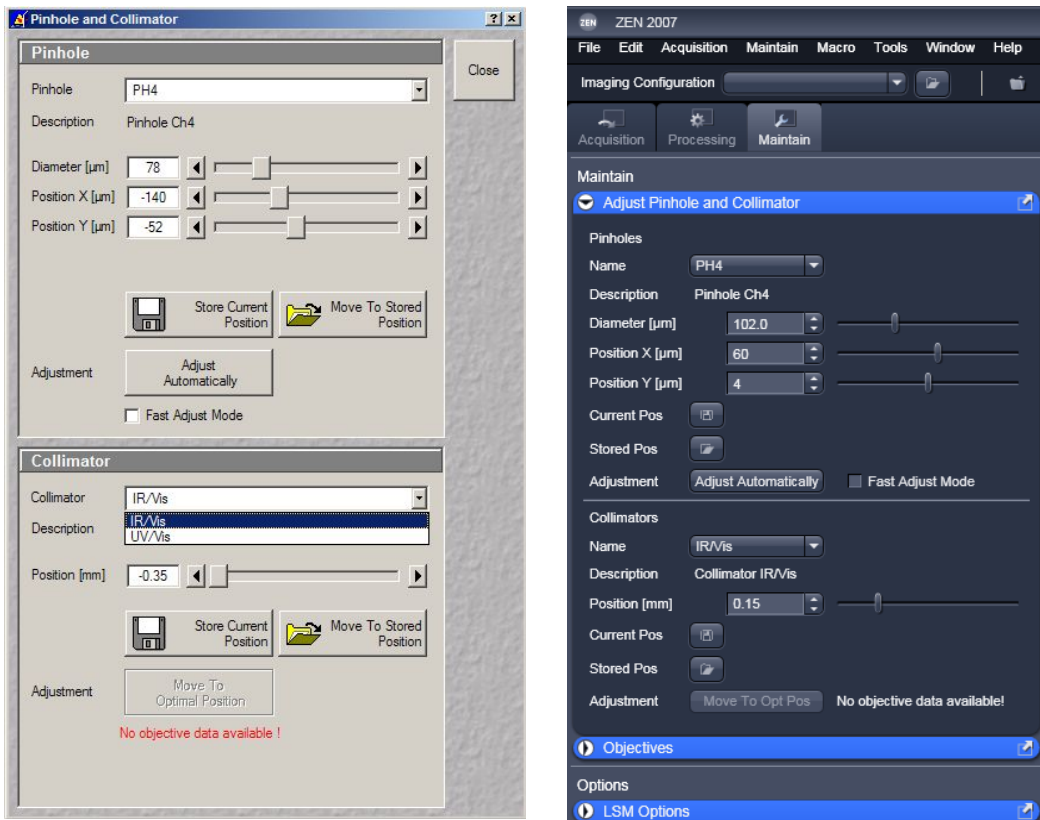

Fig. 4.2: Pinhole Alignment tab in the Zeiss LSM510 software (left) and in the Zeiss Zen software (right)
3. Go to the "Maintain" menu and select Pinhole 4 adjustment settings. If the sensitivity of the instrument is too low, open the pinhole completely. Does the intensity increase significantly? Set the desired pinhole diameter (see Fig. 4.2).
4. Move the "Position X", until the signal has maximally increased and repeat the same procedure for "Position Y" (see Fig. 4.2). Now, the Pinhole is optimally aligned.